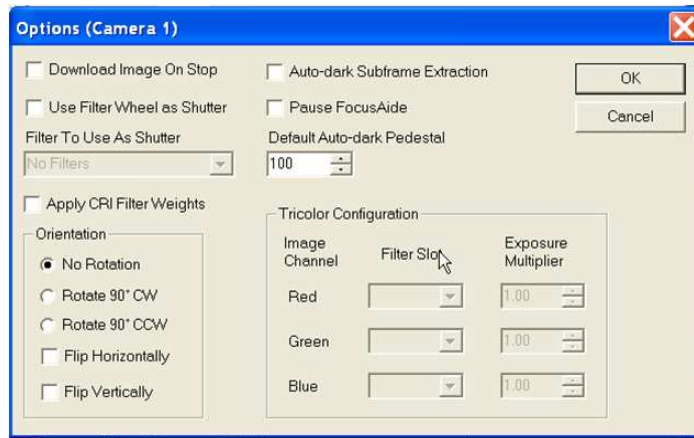

Figure 7.4: required camera1 (pinhole monitoring camera) options.
- Check the options of camera1 and make sure they correspond to what is seen in Figure 7.4. Both Flips should be unchecked.